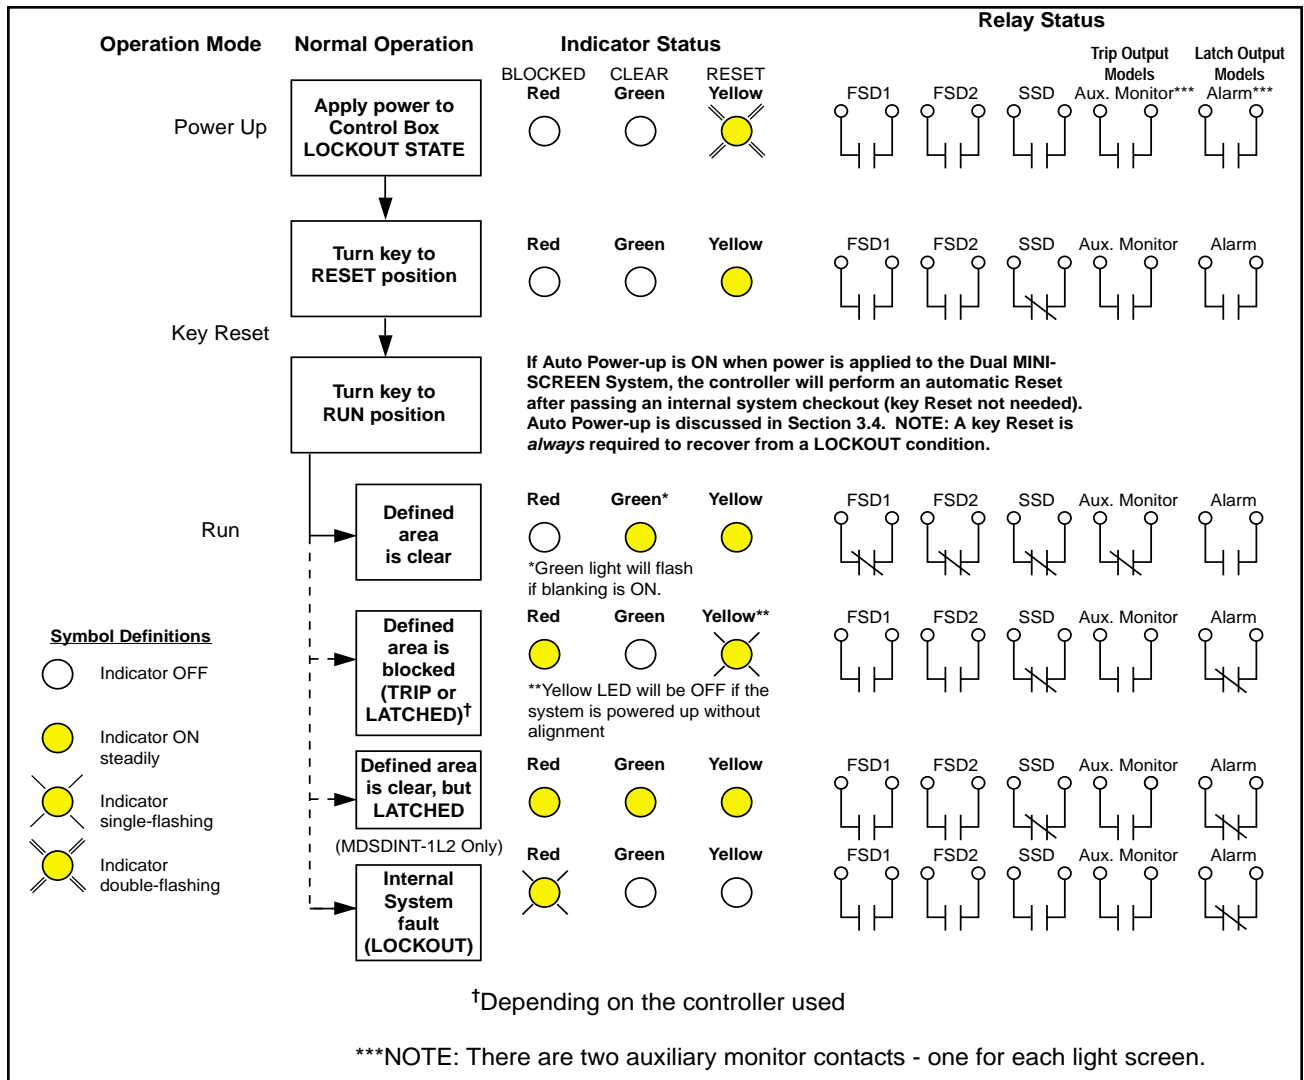

Figure 5. Dual MINI-SCREEN System status indicators and associated output conditions
- Upon power-up of the Dual MINI-SCREEN System (unless Auto Power-up is ON; see Figure 5, page 11), or
- If power to the Dual MINI-SCREEN System is interrupted (unless Auto Power-up is ON; see Figure 5).
A lockout condition resulting from an internal system fault is indicated by a flashing red status indicator LED on the control box and the receiver unit. The green and yellow LEDs will be OFF. See Figure 5, page 11.
There are two Auxiliary/Alarm Monitor Relays. One relay is assigned to each of the two light screens. See Figure 5 for operation. When an obstruction is sensed in one of the light screens, the associated monitor contact will switch. In addition, both monitor contacts will open for a lockout condition. These monitor contacts are rated only for 10VA, maximum, and are typically used to signal light screen activity to a process controller. The contacts of these relays are not for safety-related use.